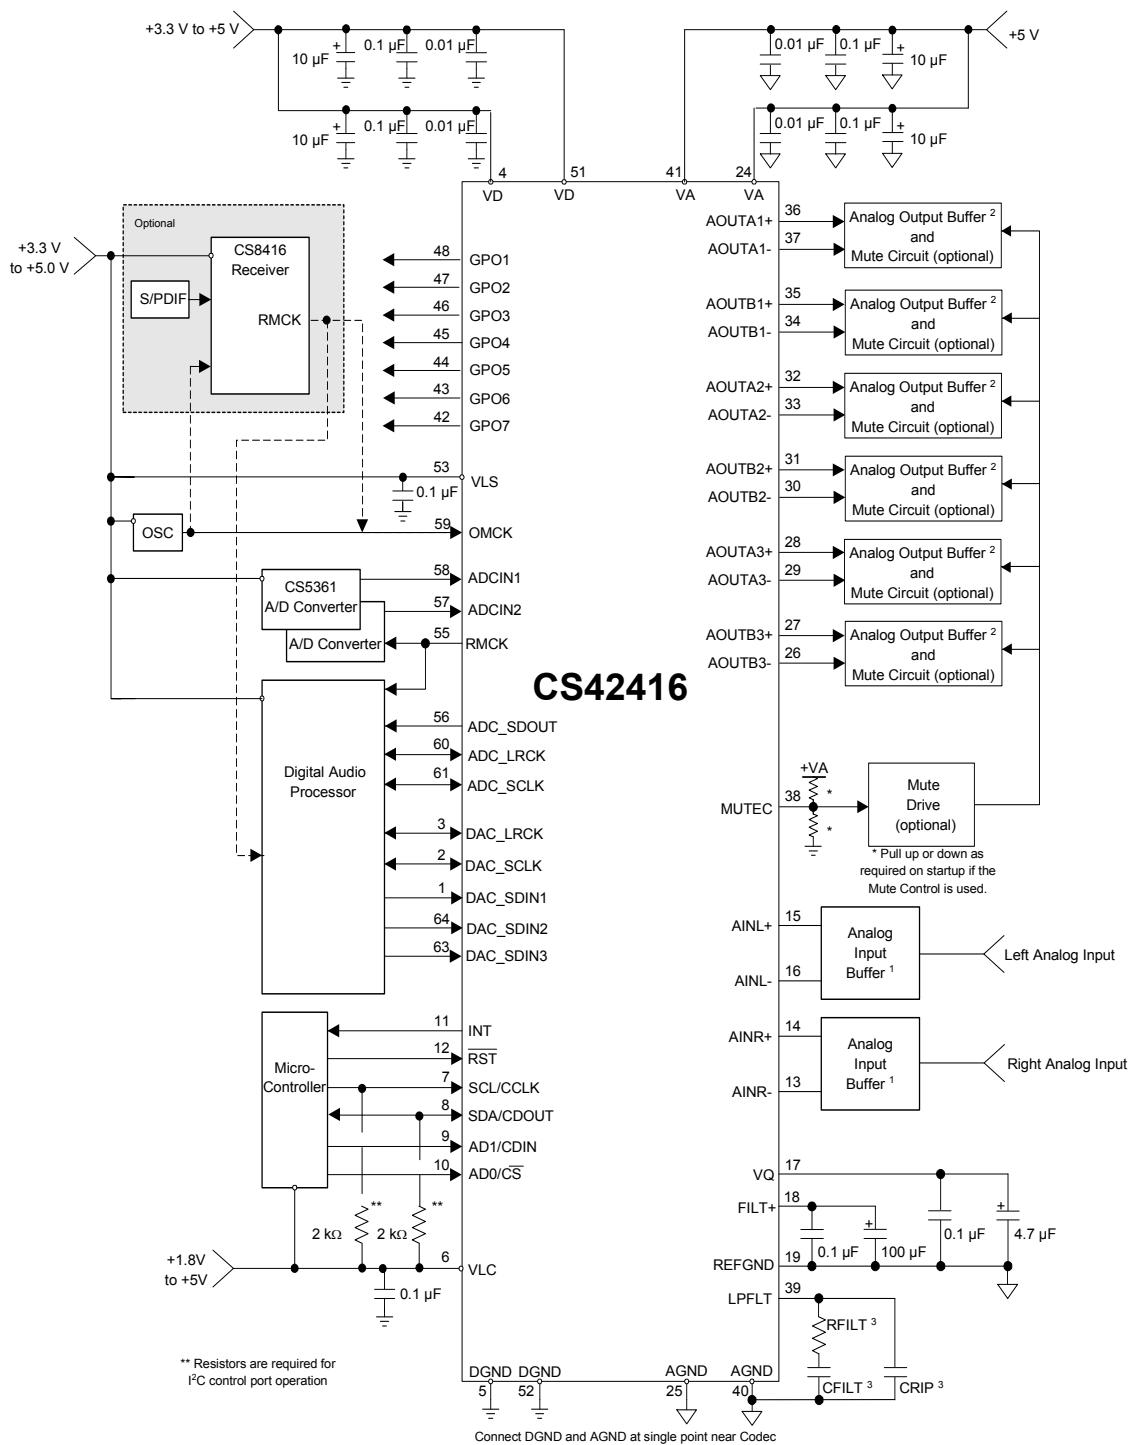
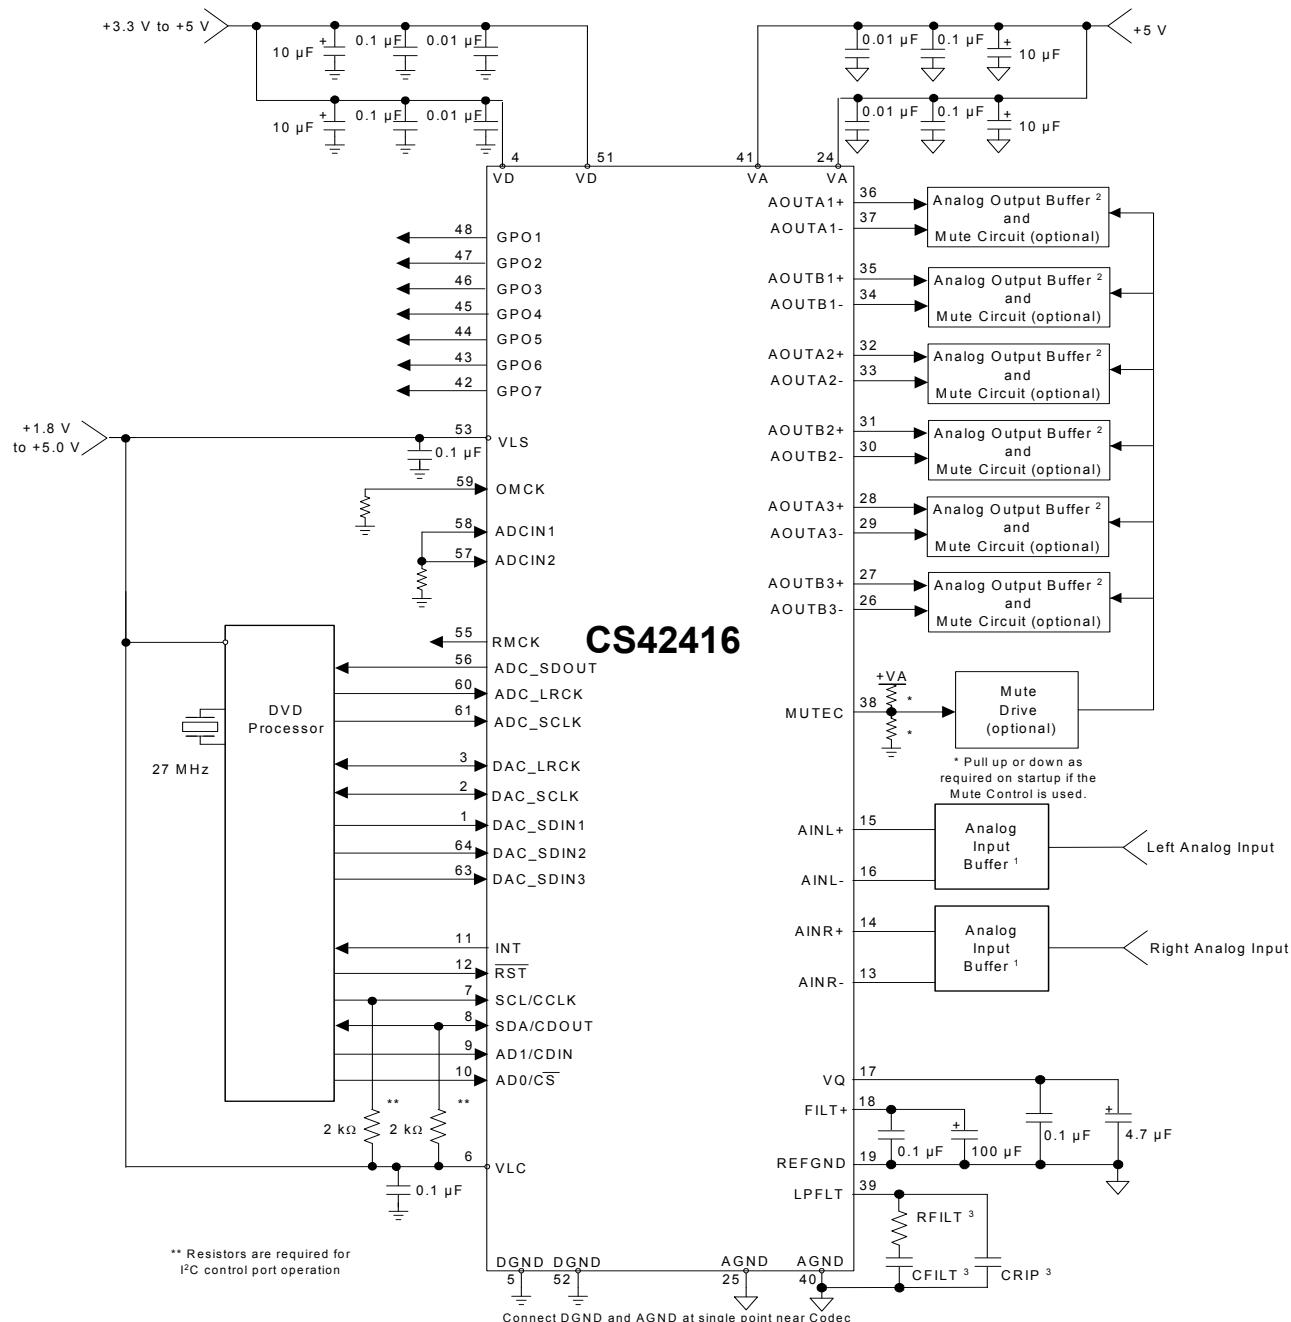

Figure 5. Typical Connection Diagram
Figure 6. Typical Connection Diagram using the PLL
25. Valid with the recommended capacitor values on FILT+ and VQ as shown in Figure 5.
The CS42426 is a highly integrated mixed-signal 24-bit audio codec comprised of 2 analog-to-digital converters (ADC), implemented using multi-bit delta-sigma techniques, and 6 digital-to-analog converters (DAC). Other functions integrated within the codec include independent digital volume controls for each DAC, digital de-emphasis filters for DAC, digital gain control for ADC channels, ADC high-pass filters, and an on-chip voltage reference. All serial data is transmitted through one configurable serial audio interface for the ADC with enhanced one-line modes of operation, allowing up to 6 channels of serial audio data on one data line. All functions are configured through a serial control port operable in SPI mode or in I²C mode. Figure 5 and Figure 6 show the recommended connections for the CS42426.